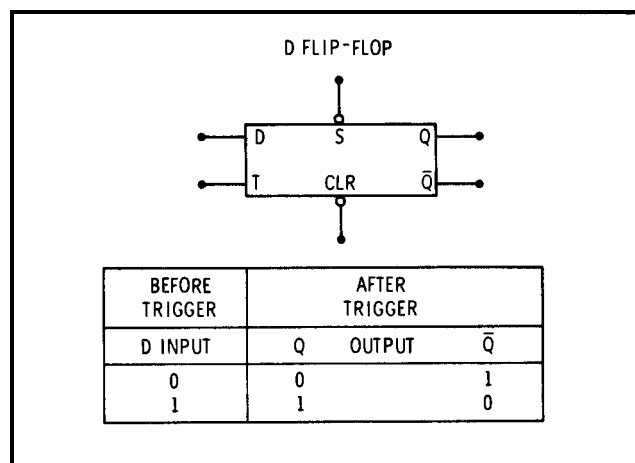

Figure 8-6. D Flip-Flop
**8-47. D Flip-Flop.** The D-type flip-flop, shown in Figure 8-6, is used as a storage latch or buffer. The information at the data input (D) is transferred to the Q output when the trigger input (T) is high-going. Once the T input has passed its threshold, the D input is locked out and the Q outputs do not change until another high-going transition occurs at the T input.